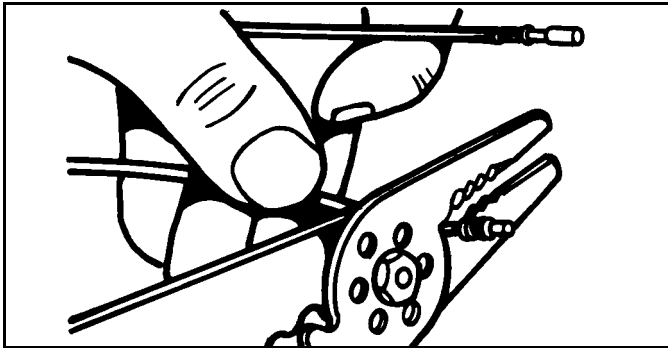

Figure 3-10
2. Use universal electrical pliers to remove wire as close as possible to old contact. (See Figure 3-10)